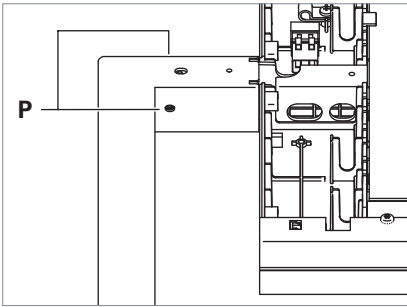

Fig. 7: Aligning the luminaire head perpendicularly to the support tube.
- ▶ Align the luminaire head perpendicularly to the support tube and tighten the two grub screws **P** against the support tube counterclockwise by hand, see Fig. 7